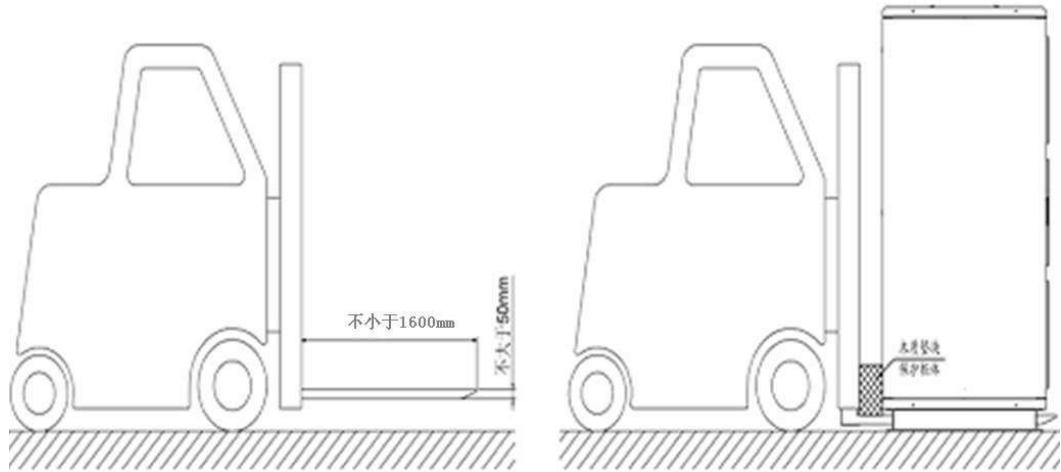

图 7.5 叉车搬运图 Figure 7.5 Forklift Transport
2) 叉车搬运：使用叉车搬运时，叉车必须能承受相应重量，叉车的叉铲的长度不小于 1600mm,叉铲的宽度不大于 170mm，厚度不大于 50mm。如图 7.5 所示：
Forklift: When transporting, the weight of the cabinet could not more than the upper limit of the forklift. The length of fork shovel is more than 1600mm, and the width is less than 170mm and the thickness is less than 50mm, as shown in figure 7.5.